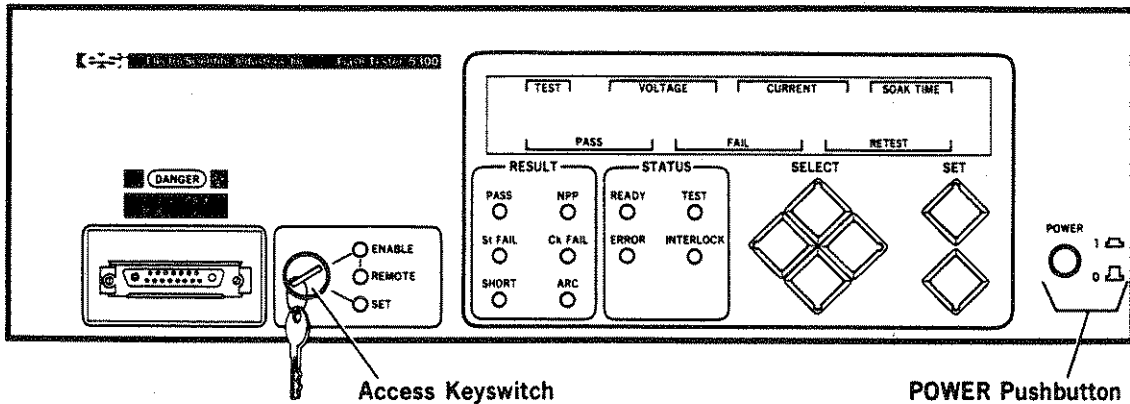

Figure 7-5. Access Keyswitch and POWER Pushbutton
STEP 3. Verify that the access keyswitch is in the ENABLE position. Refer to Figure 7-5.
STEP 4. Press the POWER pushbutton to turn the instrument to 1 (on). Refer to Figure 7-5 for the location of this switch.